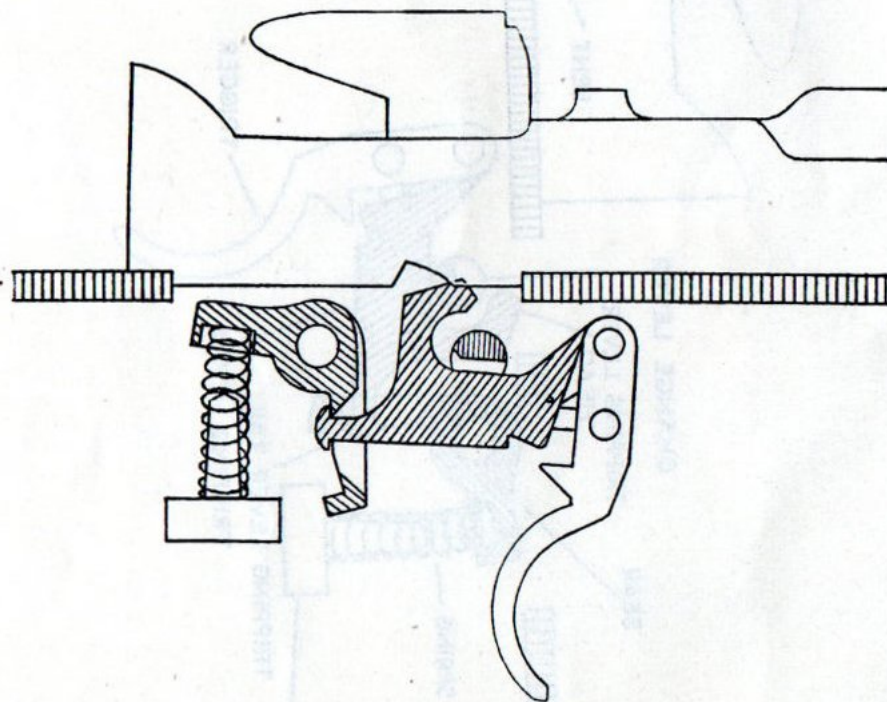

Fig 28.—The trigger pressed with the change lever at " R "
3. **Single rounds.**—When the change lever is at “R” (see Fig 28):—